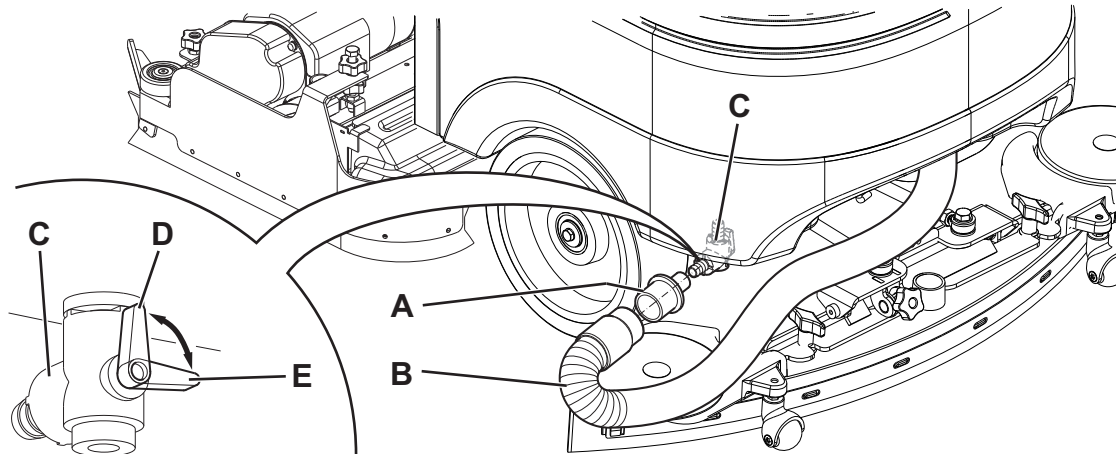

Figure 5
The display (C) shows the detergent concentration level in the solution as shown in the table in Figure 5.
1. Stop the machine by releasing the pedal (4).
2. Lift the brush/pad-holder deck and the squeegee by pressing the switch (67).
4. Empty the recovery tank with the hose (24).
5. Remove the container with debris collection grid (26), empty it and clean it with clean water. Then install it on the suction hose in the tank.
8. Remove the adapter (45) from its housing inside the battery compartment.
9. Install the adapter (A, Fig. 5) on the squeegee vacuum hose (B), then fasten it to the drain valve (C).
10. Turn the ignition key (58) to "I" and turn on the vacuum system with the switch (63).
11. Open the drain valve (C) to drain the tank (22).